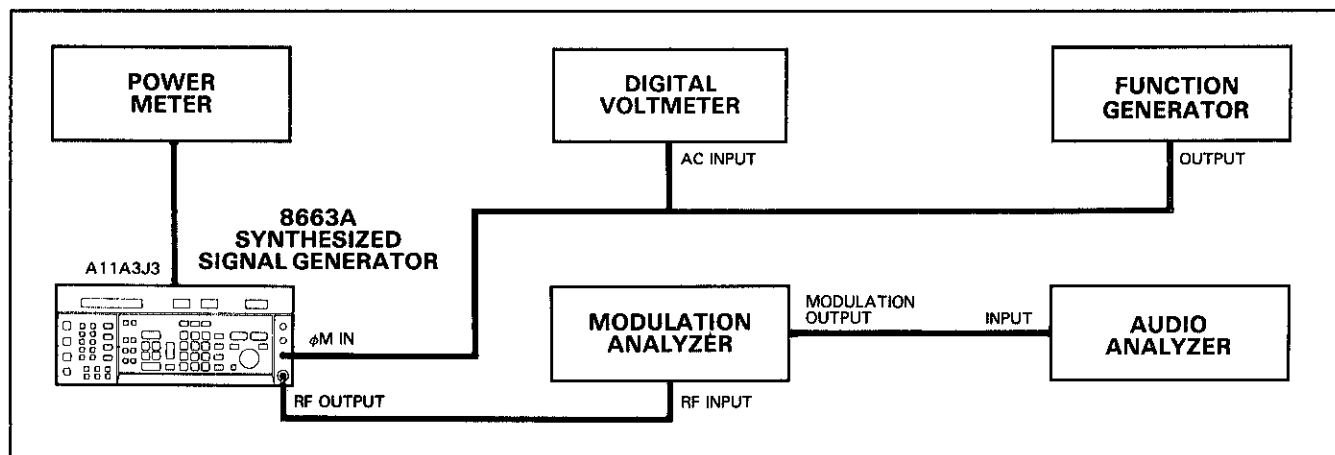

Figure 5-25. Phase Modulation Adjustment Setup.
3. Connect the equipment as shown in Figure 5-25 and set the 8663A RF frequency to 50 MHz, RF amplitude to +5 dBm, select phase modulation, 100 degrees, and 50 ohm input impedance (Special Function 70) and EXT AC modulation.